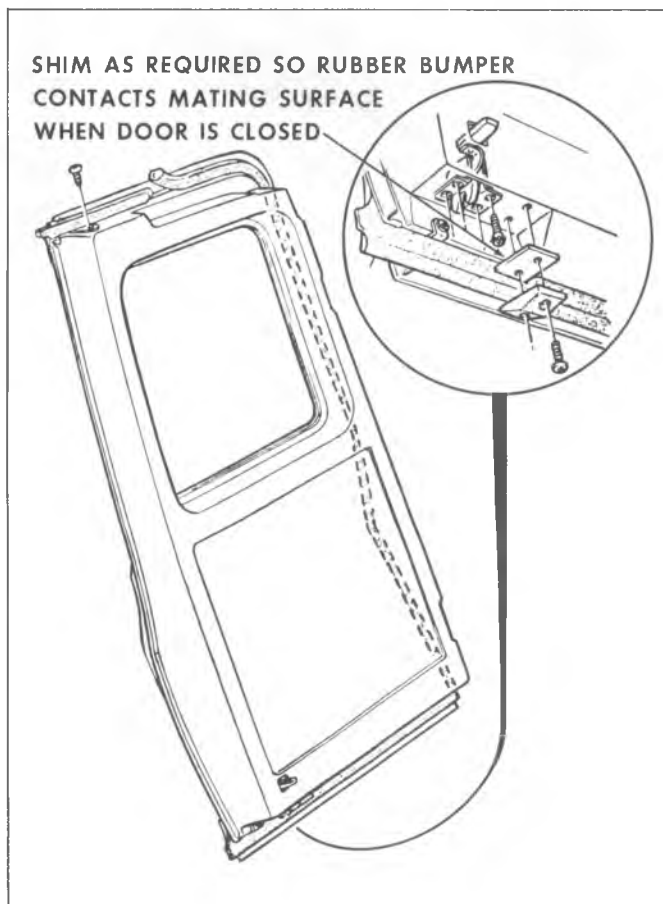

Fig. 47—Rear Door Wedge
2. Adjust wedges as shown in Figure 47.